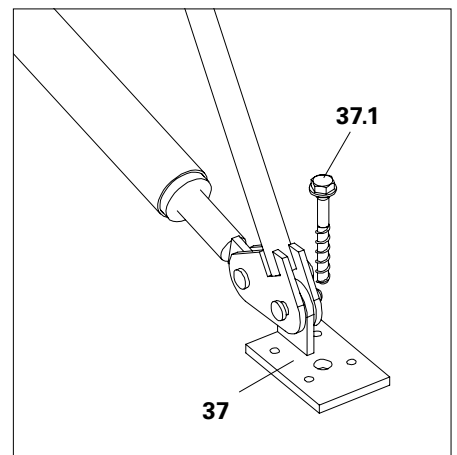

Fig. A8.01c
Fix the appropriate Base Plate (37) for the push-pull props and kickers, e.g. with PERI Anchor Bolt 14/20x130 (37.1). (Fig. A8.01c)
Fix push-pull prop and kickers with bolts and cotter pins. (Fig. A8.01c)